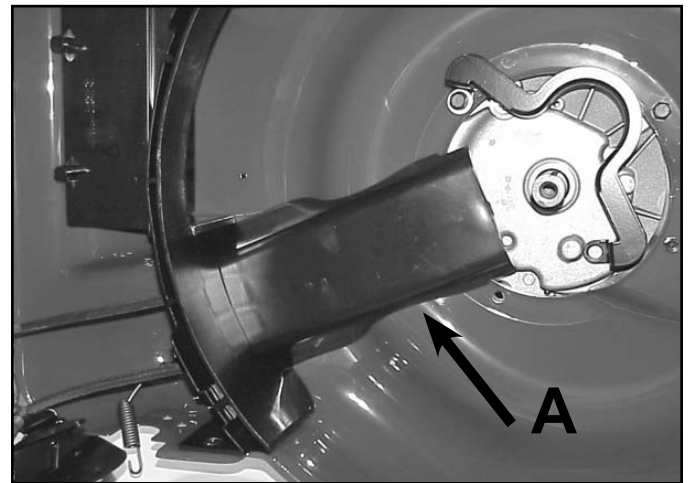

Fig 072
16. The belt cover must be removed in order to remove the belt (Fig. 072).